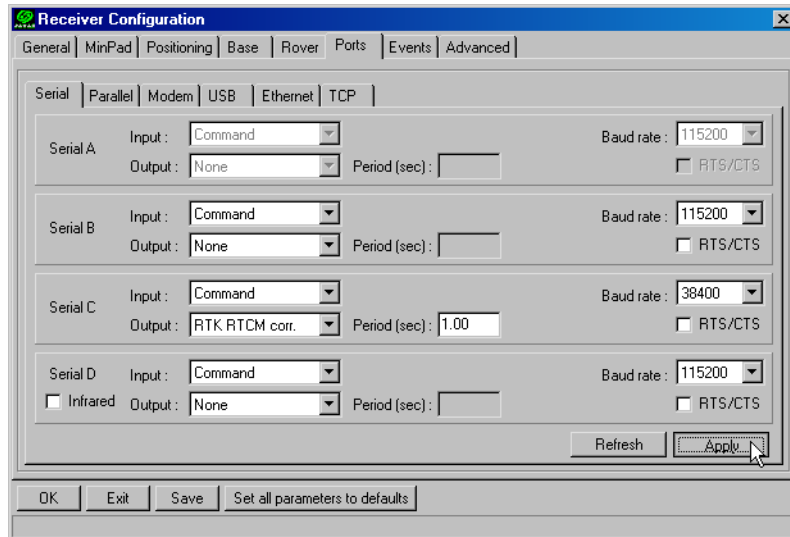

Figure 3-12. Base Configuration – Ports
11. Select the **Ports** tab and set the following port parameters (Figure 3-12 on page 98). Use serial port C for an internal modem.